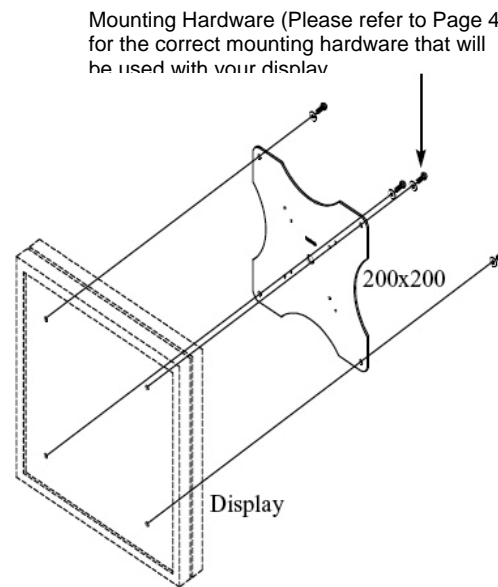

Figure 9B
3. Figure 9B: Attach the 200x200 Adapter Plate to the back of the display using the provided hardware (see Parts List, page 4).